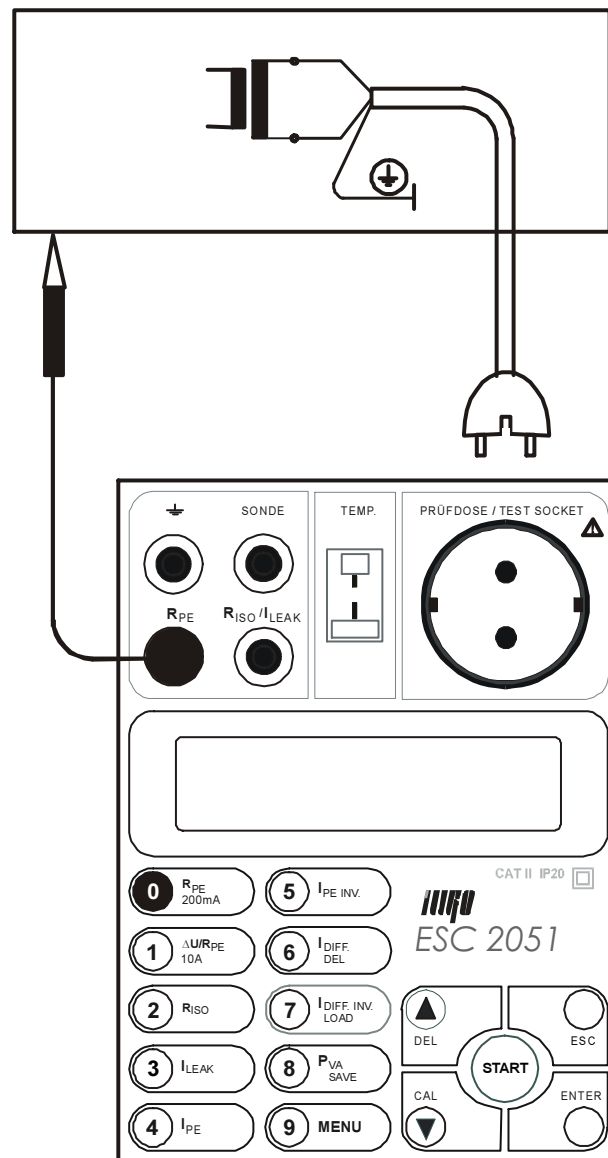

Fig. 2
- Plug in the mains cable of equipment under test to Test socket 1 (Fig. 2).